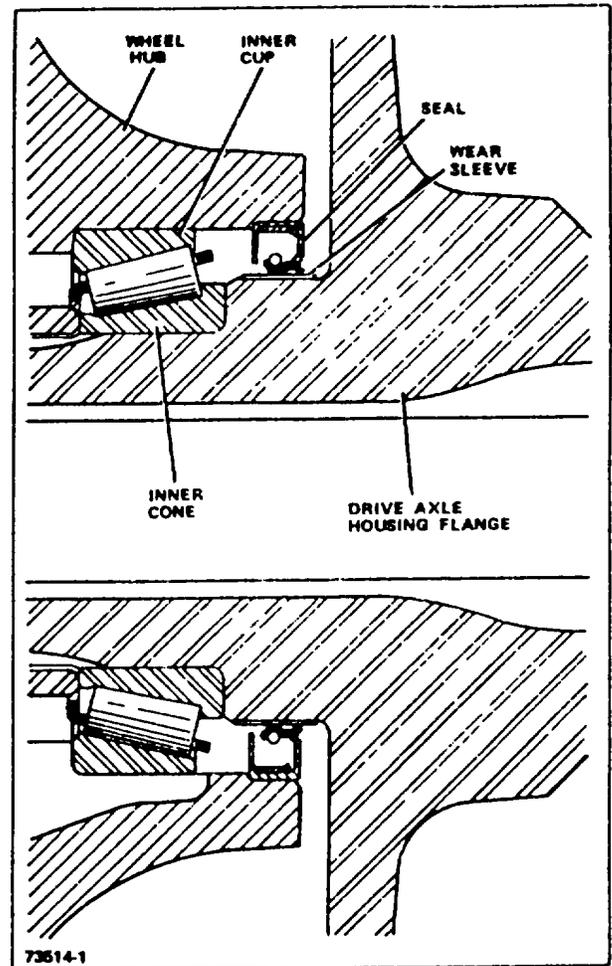

Figure 2-2. Oil Seal Installation
- c. Install the shaft seal (Fig 2-2) on the axle wear sleeve with the exposed, protruding lip on I.D. of seal facing toward differential housing.